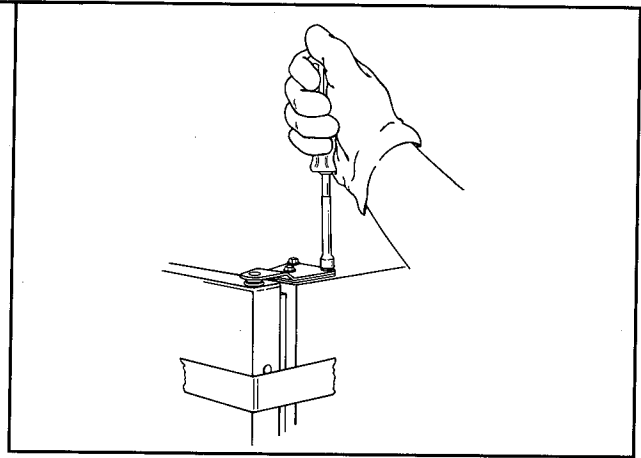

Figure 59
- a. Loosen the three 5/16" hex head screws with a 5/16" hex nut driver. See Figure 59.